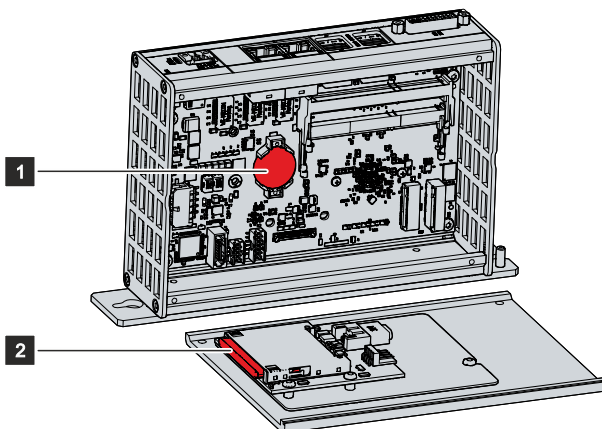

Fig. 18: Battery and CFast
1. Pull the CFast out of the holder (see fig. 18).